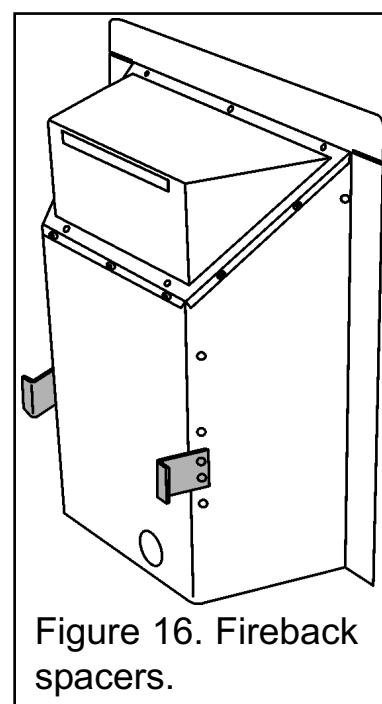

Figure 16. Fireback spacers.
7. **The appliance is supplied with two fireback spacers that must be fitted in all installations.** These should extend backwards to ensure sufficient clearance from the back of the fireplace. Position the fireback spacer as shown in figure 16. Secure the fireback spacers using the four tapping screws supplied with the fire.